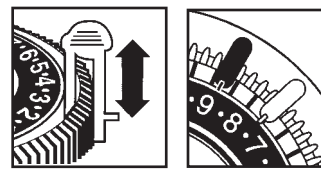

Figure 1
1. Insert ON (green) and OFF (red) trippers into dial at desired ON and OFF times (Fig. 1). Be sure trippers are firmly pressed against dial surface and at least one space is left between ON and OFF trippers (Fig. 2).